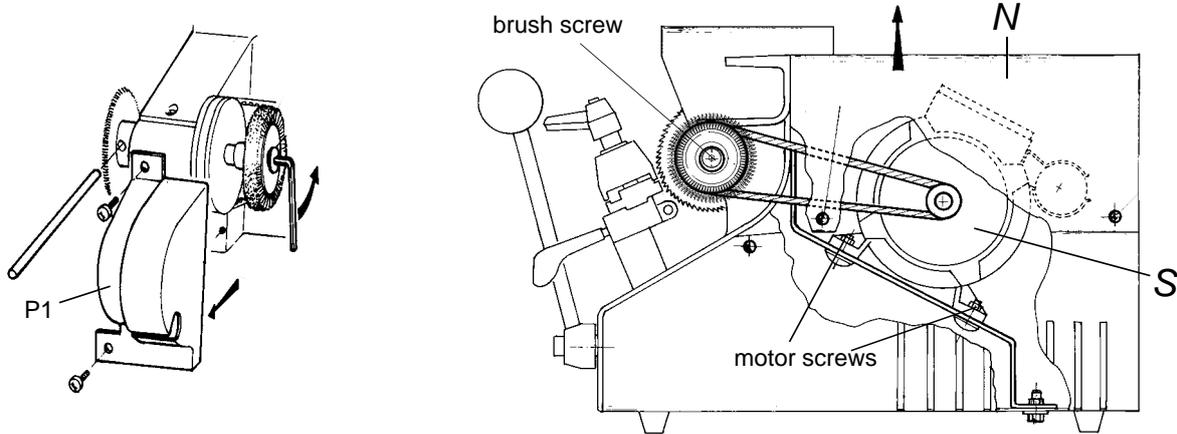

Fig. 14
- 4) Remove the spanner from the motor shaft.fig. 14